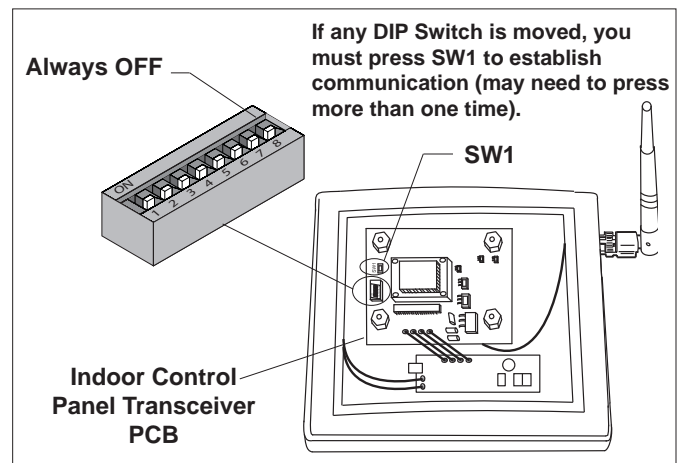

Figure 32. DIP Switch Settings at Wireless Indoor Control Panel
2. Locate the small set of DIP switches on the Control Panel PCB (see Figure 32). Except for DIP switch #8, turn on one or more DIP switches. **Important-** Before installing the Control Panel cover, press the reset button (SW1). Note which switches you have turned on then reinstall the cover and screws.